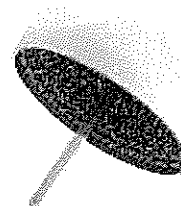

Fig. 24 CL BS Cream resurfacing
- "CL" ESKA Cera-Metal[®] resurfacing (Fig. 24)/